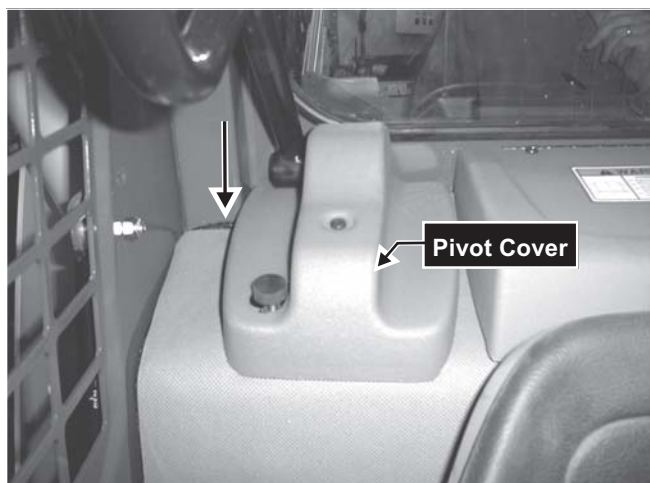

Fig. 4-24 Location of restraint bar switch wire connected to wire harness.
3. Inside ROPS, remove one screw securing pivot cover and remove cover. **Fig. 4-24**
4. Disconnect restraint bar switch from wire harness located above restraint bar on right side. **Figs. 4-24, 4-25**